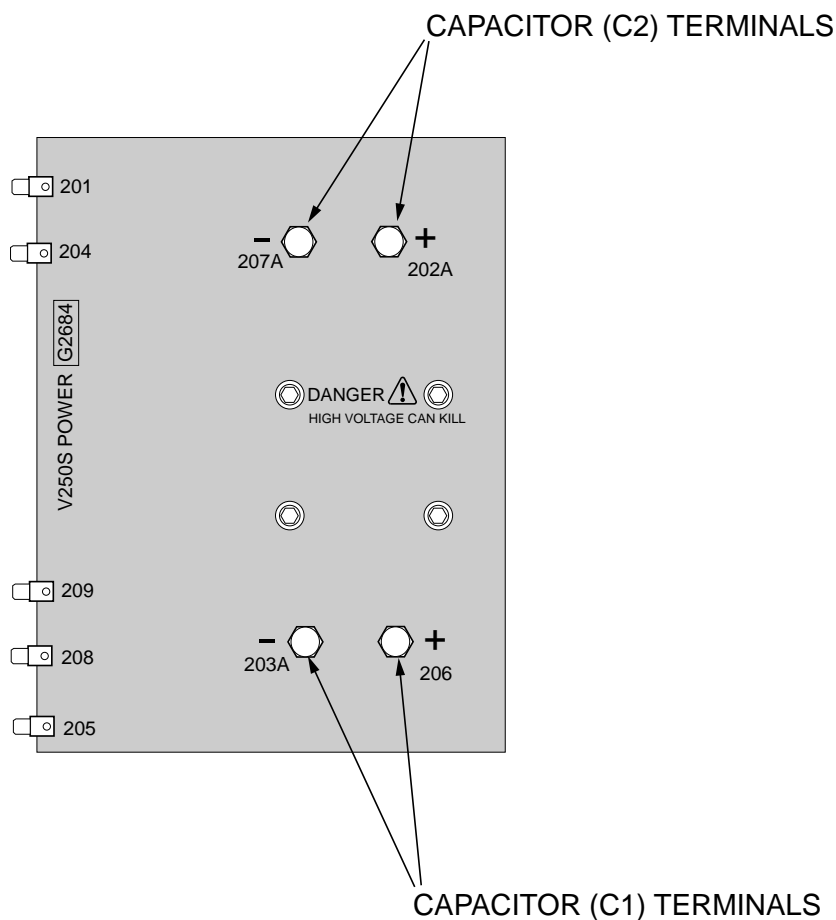

Figure F.12 Power Board and Capacitor Test Locations
5. Locate and familiarize yourself with the capacitor test locations on the power board. See Figure F.12.